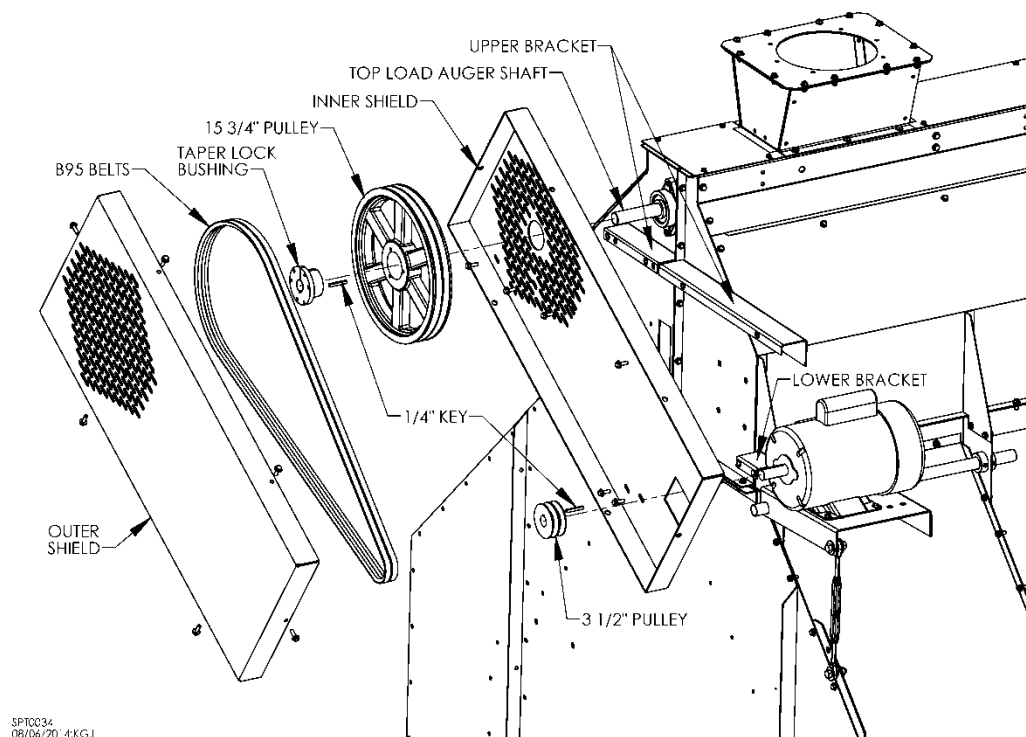

Fig. 2-26 – Top load auger components
Fig. 2-26 shows components of top load auger drive assembly. Follow steps 1-12 to assemble.
8. Bolt inner shield to upper and lower brackets using 5/16" bolts, washers and nuts. See Fig. 2-26.
9. Attach a 3-1/2" O.D. pulley to motor shaft with a key and attach 15-3/4" O.D. pulley to top load auger with a taper lock bushing. See Fig. 2-26. Use straight edge to align pulleys. Attach two B95 belts between auger pulley and motor pulley. Tighten turnbuckle to tighten belts. **Tension belts so it takes about 6 lbs. pressure to deflect belt 1/2" at center of belt span.**
11. Slide outer shield around inner shield and attach with six (6) 5/16 x 1" bolts. See Fig. 2-26.